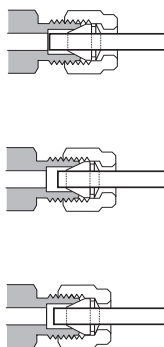

Figure 16 Completed fitting
- 10** Both correctly- and incorrectly-swaged connections are shown in Figure 16. Note that the end of the tubing in a correctly-swaged fitting is not crushed and does not interfere with the action of the ferrules.